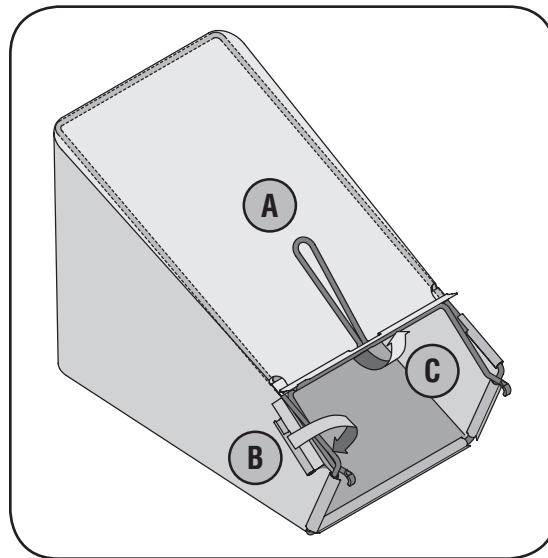

Figure 3-5: Assemble the grass catcher (if needed).
- b. Slip plastic channel of grass bag over hooks on the frame. See Figure 3-5. All the plastic channels except center top of bag attach from outside of bag.